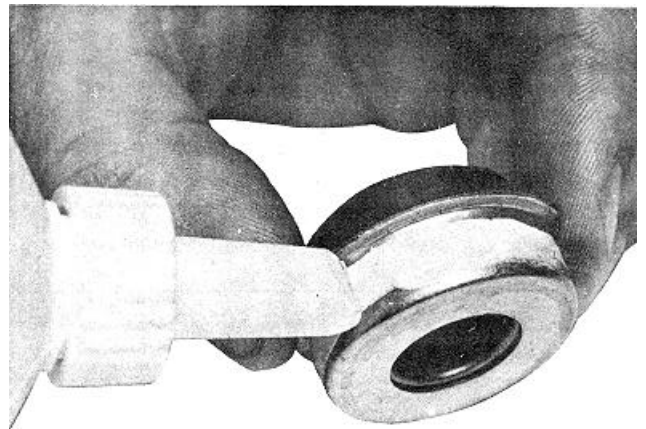

Fig. 8-50 (N10853). Apply Loctite Onto The Seal.
17. Turn the water pump housing over and support the drive side of the housing. Apply a coat of Part No. 3375066 Loctite to the brass part of the seal outside diameter, Fig. 8-50. Use the Part No. 3375448 Mandrel to install the new seal into the housing.